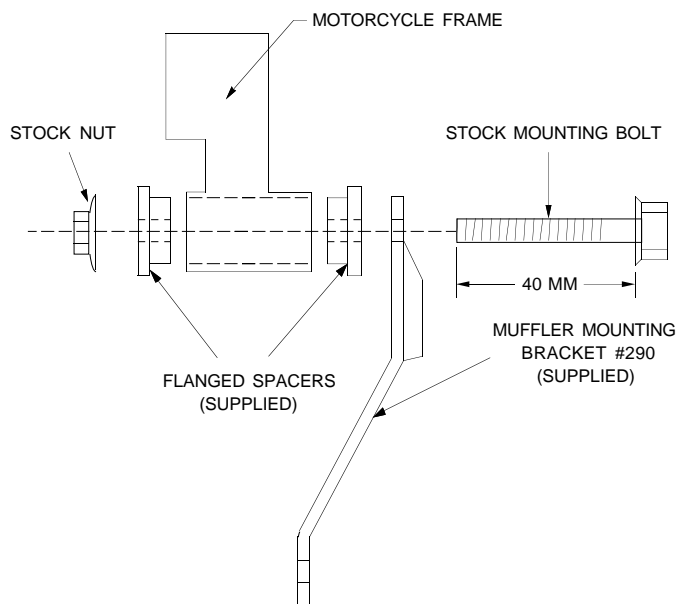

FIG. 1
1. Install the two flanged spacers (supplied) into each side of the rear most muffler mounting point. *Refer to figure 1 on page 3.*
2. Mount the supplied muffler bracket (stamped 290) to the rear most muffler mounting point, with the flanged spacers in place. Note: *Refer to figure 1 and 2 on page 3.*